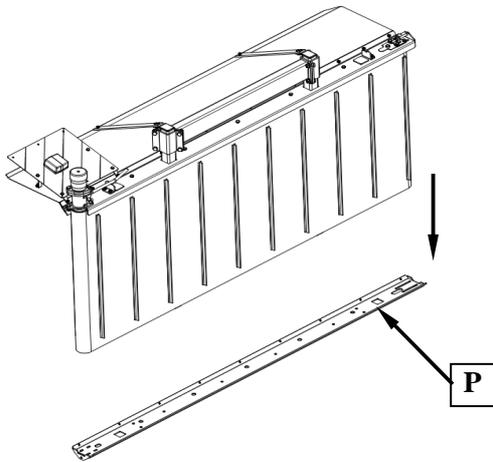
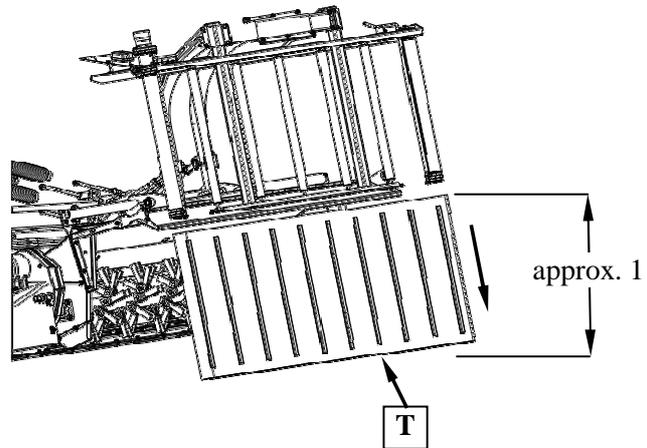

Fig. 31.
Fig. 32.
2. Dismount front belt in lower part of the conveyor **P** (Fig. 31). Slide belt **T** down (Fig. 32).